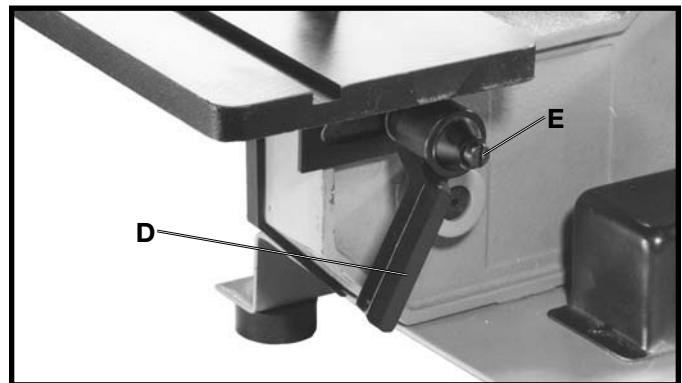

Fig. 18
- Place handle (D) Fig. 18, onto locking stud and fasten with screw (E) and spring.
- NOTE:** The locking handle (D) Fig. 18, is spring-loaded and can be repositioned by pulling out the handle and repositioning it on the serrated stud located underneath the handle.